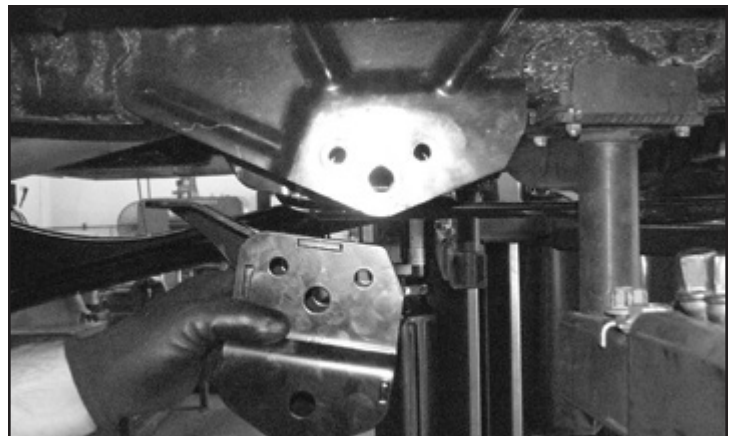

FIGURE 34 - STEP 39
39. Slide the Fabtech radius arm mount into the factory pocket with the frame tab facing the front of the truck. **SEE FIGURE 34**